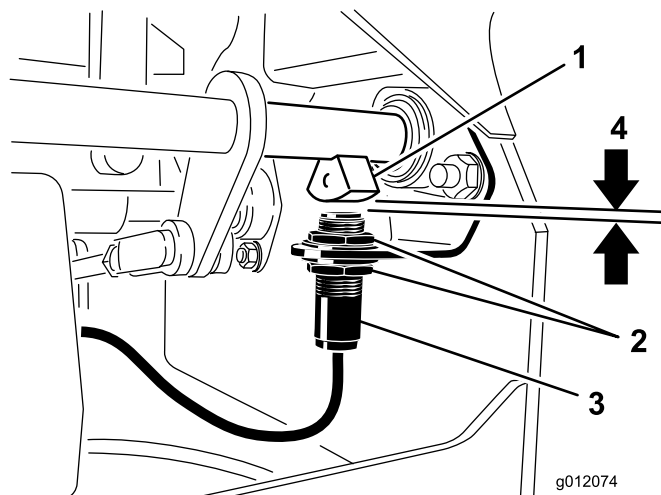

Figure 76
4. Move the switch up or down on the bracket until the distance between the brake shaft sensor and the switch plunger is 5/32 inch (3.9mm) (Figure 76).